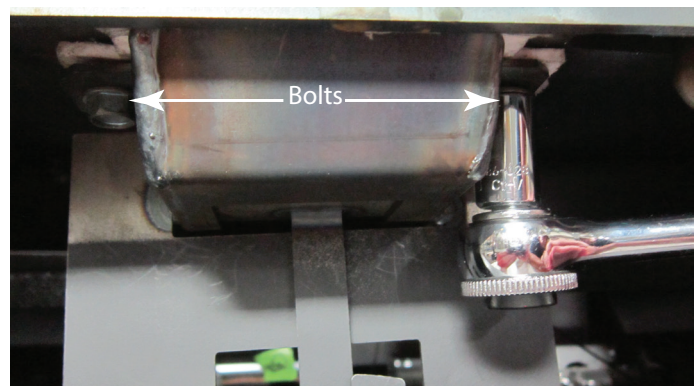

Figure 4.13 Remove Bolts
- Remove the (2) 1/4-20 bolts using a 3/8" wrench. See Figure 4.13. Let the timer assembly down. Place your hand into the access door (Figure 4.14) in the floor of the fireplace. Grab the timer assembly and rotate it up through the access door. You will be looking at the back side of the assembly. See Figure 4.15.